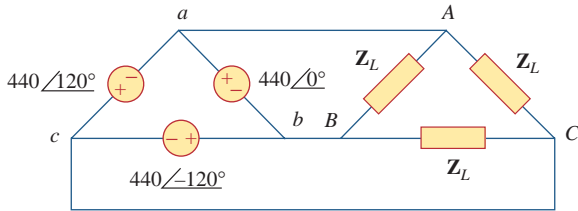

Figure 12.52
12.21 Three 440-V generators form a delta-connected source that is connected to a balanced delta-connected load of $Z_L = 10 + j8 \Omega$ per phase as shown in Fig. 12.52.